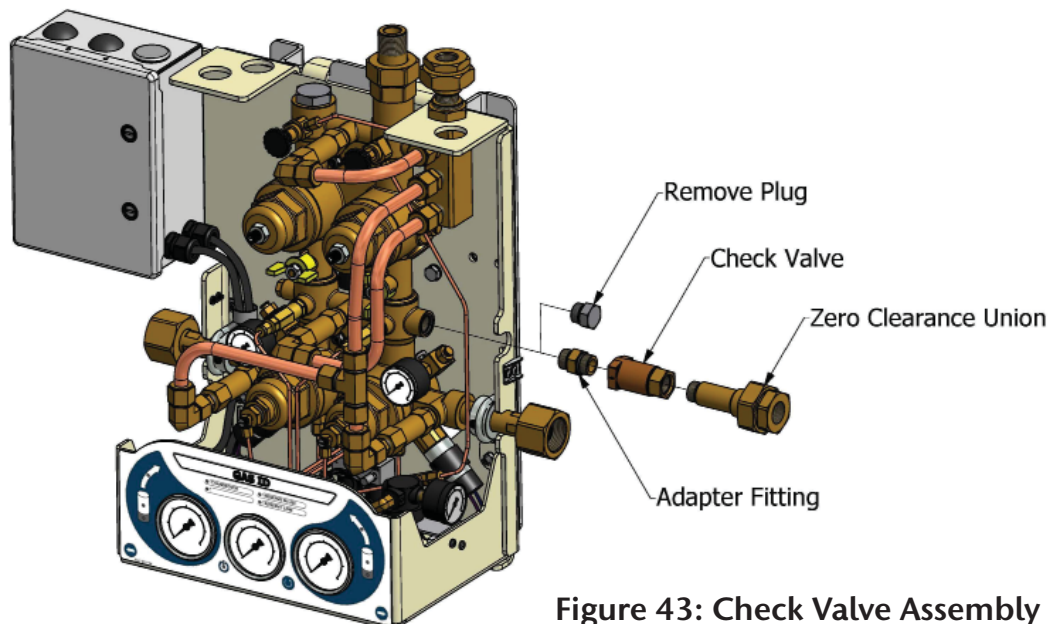

Figure 43: Check Valve Assembly
2. Install the reserve header check valve kit into the right port of the manifold regulator assembly by removing the plug shown in Figure 43.